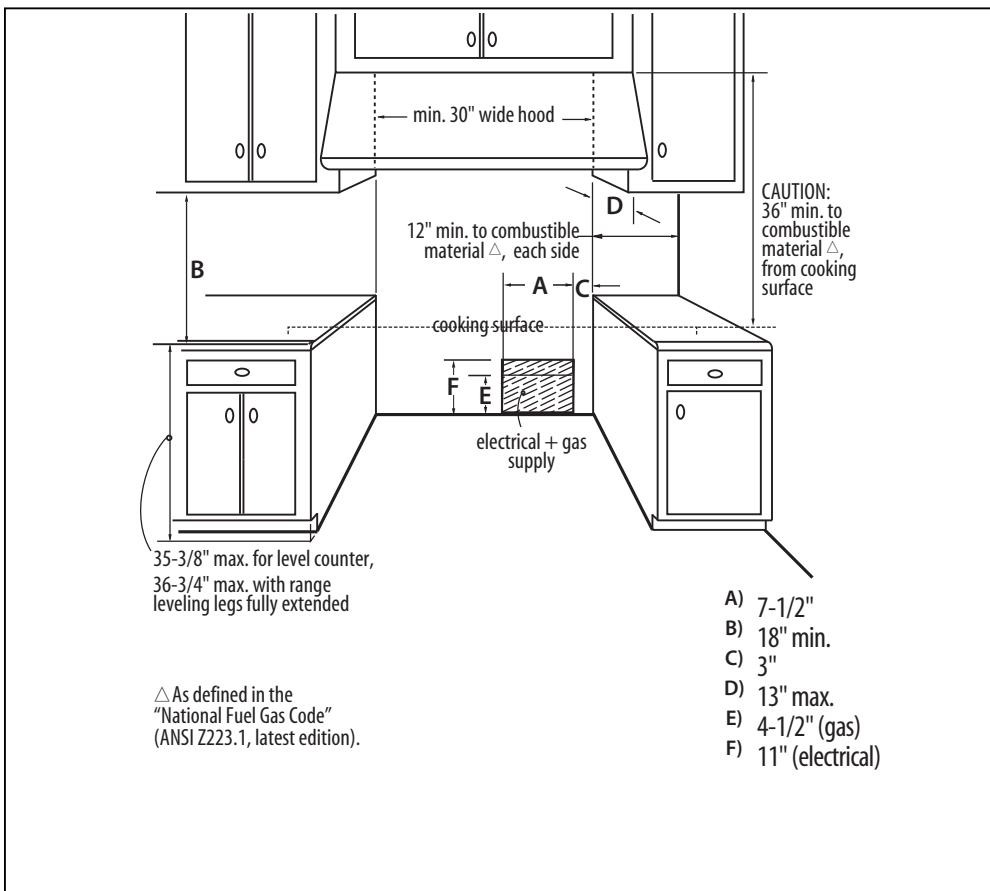

Fig. 13
1. The range is a free standing unit. If the unit is to be placed adjacent to cabinets, the clearances shown in Fig. 13 are required. The same clearances apply to island installations.
3. The gas and electrical supply should be within the zones shown Fig. 13.